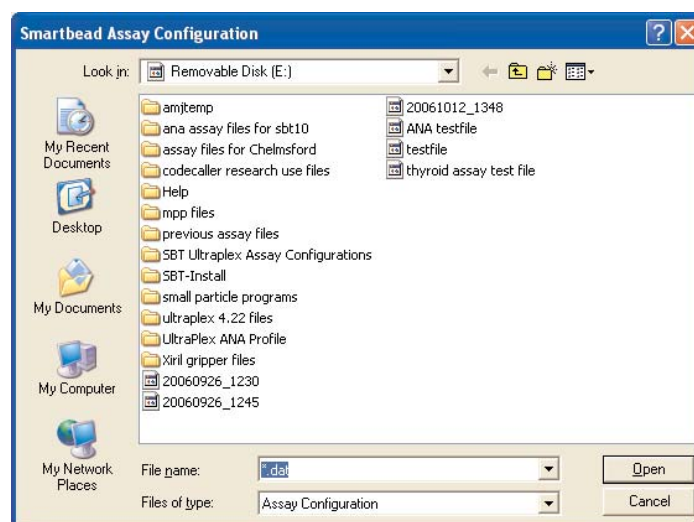

Figure 5. Removable media device directory window
1. A directory of files on the E: drive (removable media device) will appear (Figure 5). If this is not the correct drive for the memory stick, then choose the correct drive from the 'Look in' drop down menu.